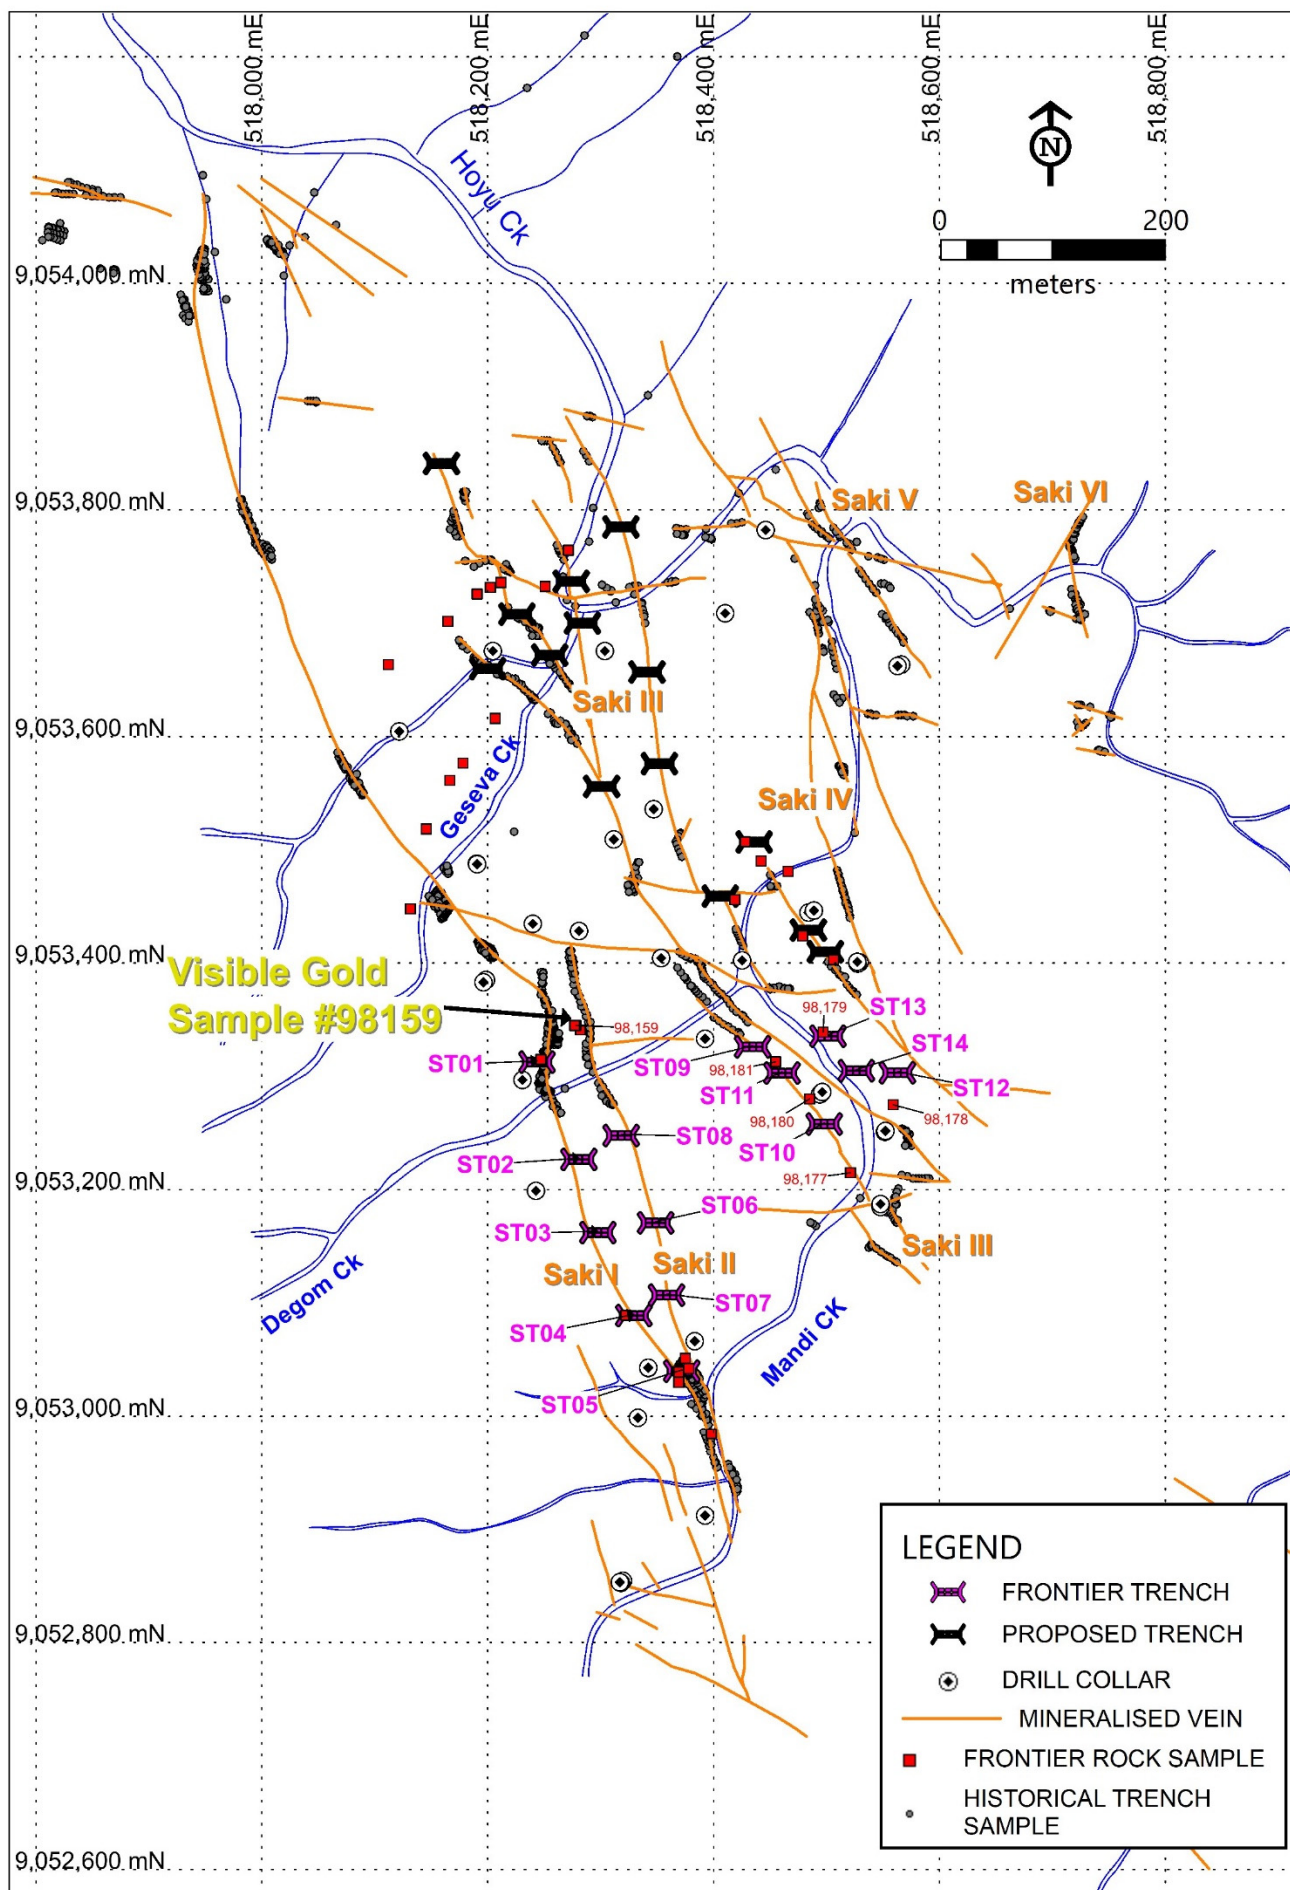

Figure 1: Saki Frontier Trench Locations.
Over the past three weeks, the Saki geological team also completed 1.1km of reconnaissance geological mapping and detailed geological mapping along the Saki I and II veins between Degom and Mandi Creeks (Figure 1). Impressive vein exposures were located ranging in thickness from between 2 to 7 metres. At the Saki II vein outcrop in Degom Creek (Figure 1), the main vein is 5m wide with milky and translucent quartz where visible gold is exposed (Photo 1) in Outcrop Rock Sample #98159 (518278e, 9053345n)..
The Degom creek intersects the SAKI I, SAKI II and SAKI III veins in sequence following the Degom SW to NE drainage pattern (Figure 1). Andesite is the host rock to the Saki veins and was mapped along the entire length of the Degom creek. Several NNW-SSE quartz veins and stringers crop out along this creek. Competent andesite provides a good impermeable host and is a factor in confining the mineralising fluids to the fissure veins and enhancing the gold grade, rather than these fluids dissipating into permeable tuffs.
**Table 1: Trenching Progress Summary (Refer to Figure 1)**